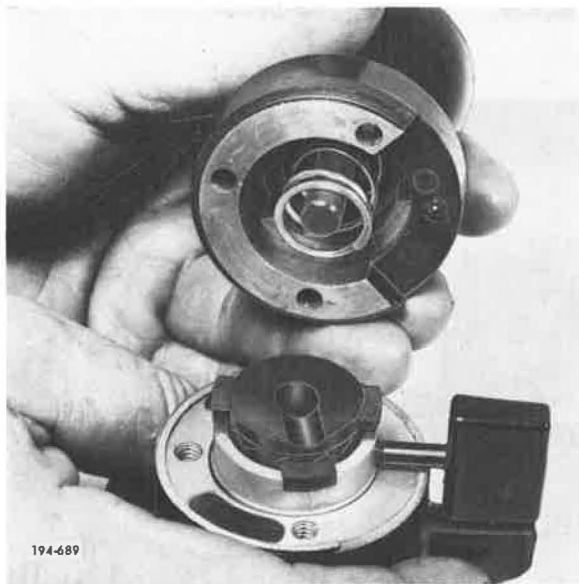

Figure 228. Installing Cover
12. Bring two halves together, aligning rotor handle with slot provided for it in cover. See Figure 228.